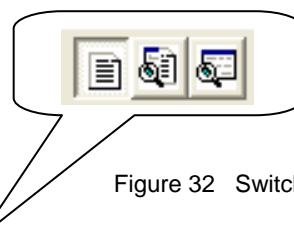

Figure 32 Switch display mode button
The **Display mode** can be switched by clicking the button in the upper-left of the editor window, as shown in Figure 32.
- **Source display mode** button (left side, Figure 32)
- **Mixed display mode** button (center, Figure 32)
- **Reverse assembly display mode** button (right side, Figure 32)